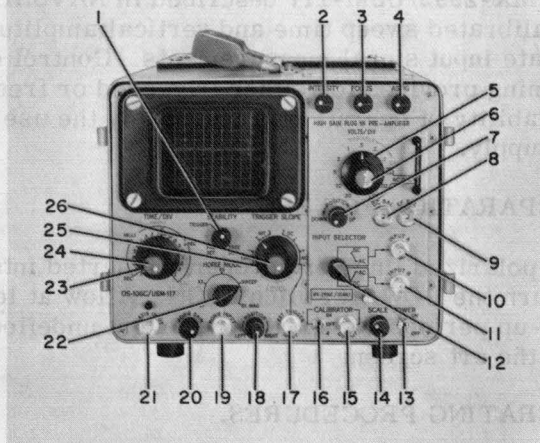

Figure 3-1. Oscilloscope AN/USM-117(),
a. DESCRIPTION OF CONTROLS. - All controls required for normal operation are mounted on the front panel of the Oscilloscope. Figure 3-1 illustrates all front panel controls and connectors. The functions of the controls and connectors are described in table 3-1.
| CONTROL MARKING | ITEM NO., FIG. 3-1 | FUNCTION |